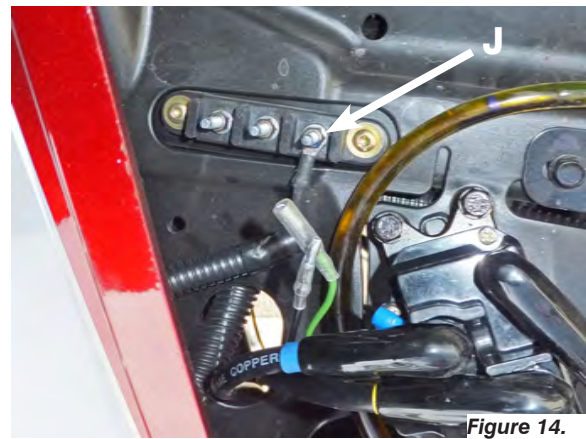

Figure 14.
17. Attach the ignition fed wire (RED) from your switch to the post labelled (J) in **Figure 14**, using the 22-18GA Spade Insulated Terminal included in the winch mount hardware kit.